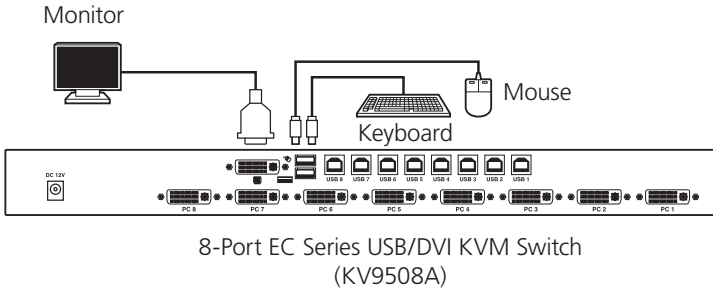

Figure 3-1. Console keyboard, mouse, and monitor connection.
2. Connect your USB keyboard and USB mouse directly to the USB keyboard and mouse ports (labeled with keyboard and mouse symbols) on the back of the ServSwitch as shown in Figure 3-1. Attach your DVI cable from your monitor directly to the DVI port.